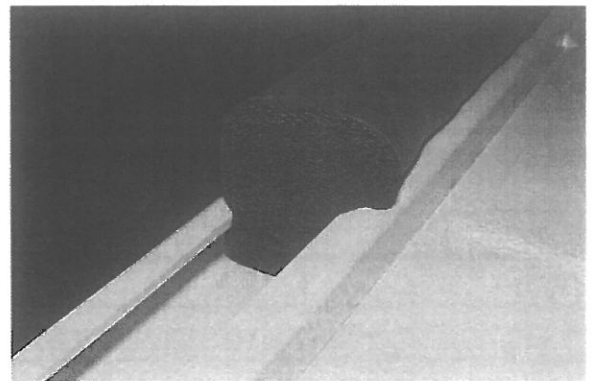

Fig. 2-3
- 9. Go around the vacuum pad, pushing the pad seal into the channel approximately 50% on both sides until it is squarely seated in the channel (Fig. 2-3).